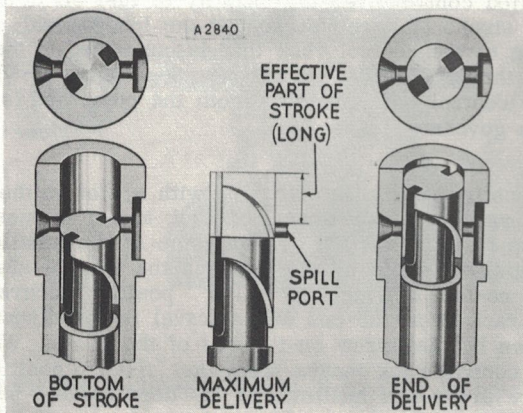

FIGURE 2-5 - Maximum Delivery
2.1-3 METERING PRINCIPLE - The amount of fuel delivered is controlled by the position of the plunger helix. When the plunger is rotated to a position as illustrated in Figure 2-5, the effective part of the stroke (that portion of the stroke from the closing of the barrel ports by the top of the plunger to the point where the edge of the helix rises above the barrel ports) is long and fuel delivery is at a maximum.